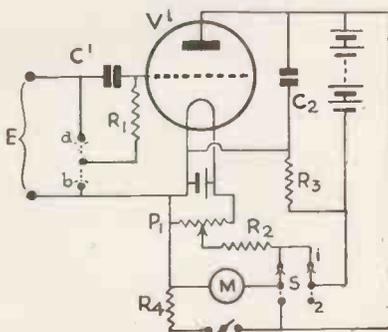

Fig. 6. Grid rectifying triode voltmeter.
The logical development of this idea leads to the Grid Rectifying Triode Voltmeter, depicted in Fig. 6. Here the grid performs the dual function, acting as a diode to rectify the applied voltage, and by the negative bias set up across the load resistance (grid leak) causing the anode current of the valve to fall.
In Fig. 6, a switch (S) is provided so that the same meter may be used for measuring the anode battery voltage. It is not necessary that the actual value should be known, so it is not necessary (unless desired) to calibrate M with  $R_3$  as a voltmeter. When initially calibrating, it is only necessary to note the reading on M with the switch in position 2, and to adhere to this value of anode voltage whenever the instrument is to be used for important measurements.